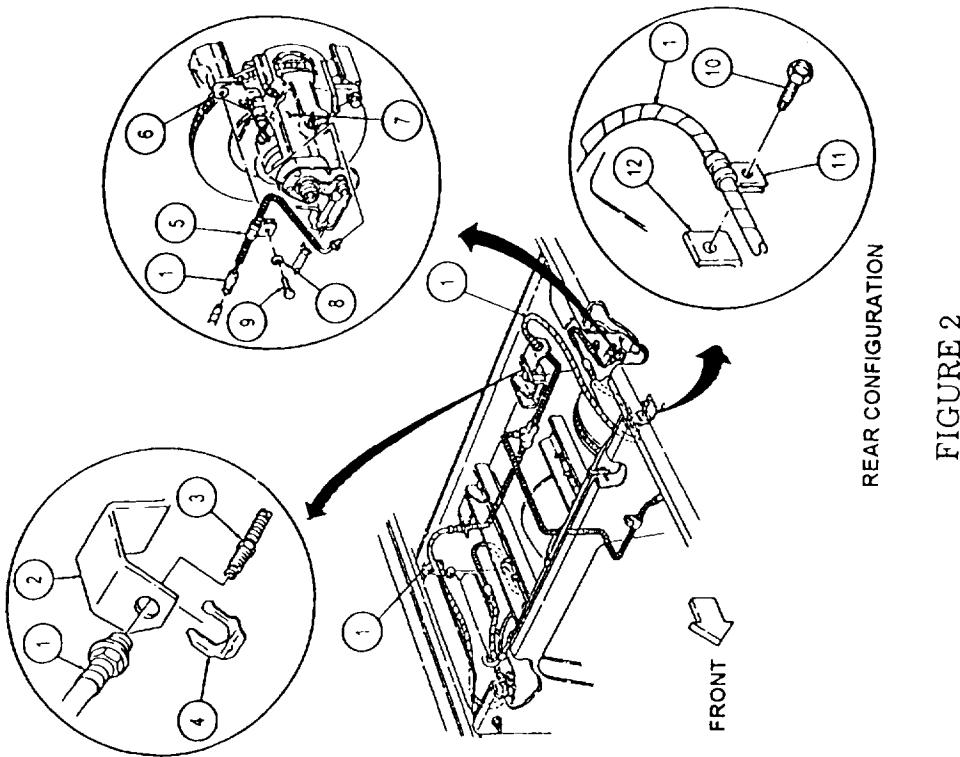

FIGURE 2
- g. Add step 7, "Disconnect left rear brake line (1) from caliper (7). See figure 2."
- h. Add step 8, "Remove capscrew (9), washer (8), and clamp (5) from yoke (6) as shown in figure 2."
- i. Add step 9, "Remove capscrew (10) and clamp (11) from bracket (12). See figure 2."
- j. Add step 10, "Remove clip (4) and left rear brake line (1) from bracket (2) and intermediate brake line (3). See figure 2."
- f. Add step 8, "Install left rear brake line (1) on intermediate brake line (3) and bracket (2) with clip (4). See figure 2."
- g. Add step 9, "Install clamp (11) and brake line (1) on bracket (12) with capscrew (10). See figure 2."
- h. Add step 10, "Install clamp (5) on yoke (6) with washer (8) and capscrew (9). See figure 2."
- i. Add step 11, "Connect left rear brake line (1) to caliper (7). See figure 2."